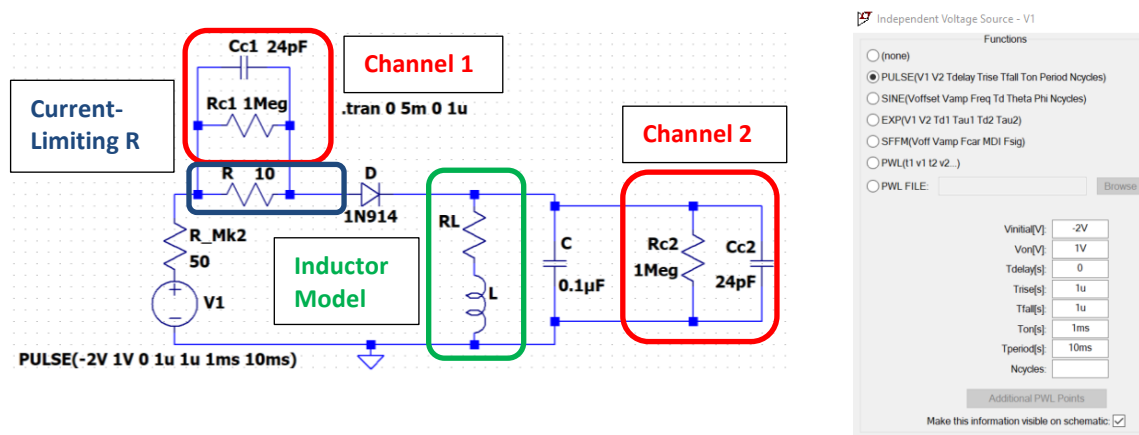

Figure B-2.
across the capacitor and inductor and determine its frequency, we can determine L from our knowledge of C. To do this measurement and model the behavior of the inductor using *LTspice*, we have to modify the ideal circuit as shown below in Figure B-2.
- Simulate the circuit in Figure B-2 in *LTspice*. This is the same circuit as the one pictured in B-1 but the inductor (because it *does not* have an insignificant internal resistance) is more accurately simulated by two components, an inductor and a resistor. Components representing the Oscilloscope are also included, as is the internal resistance of the signal generator of the M2k.